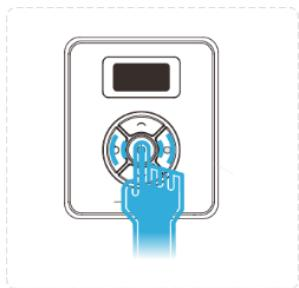

Figure 4.5 Power Magic Box
Step 2 Press the Power button of Magic Box, as shown in Figure 4.5.